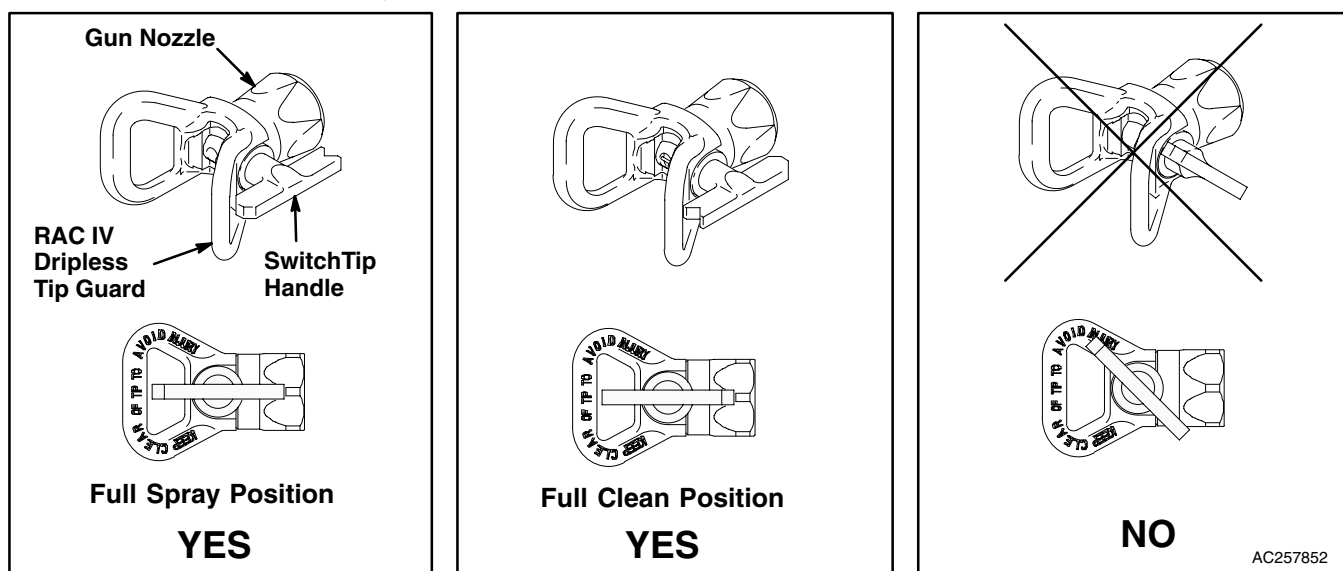

Fig. 1
- Turn the SwitchTip handle so it is parallel to the gun nozzle. See Fig. 1.